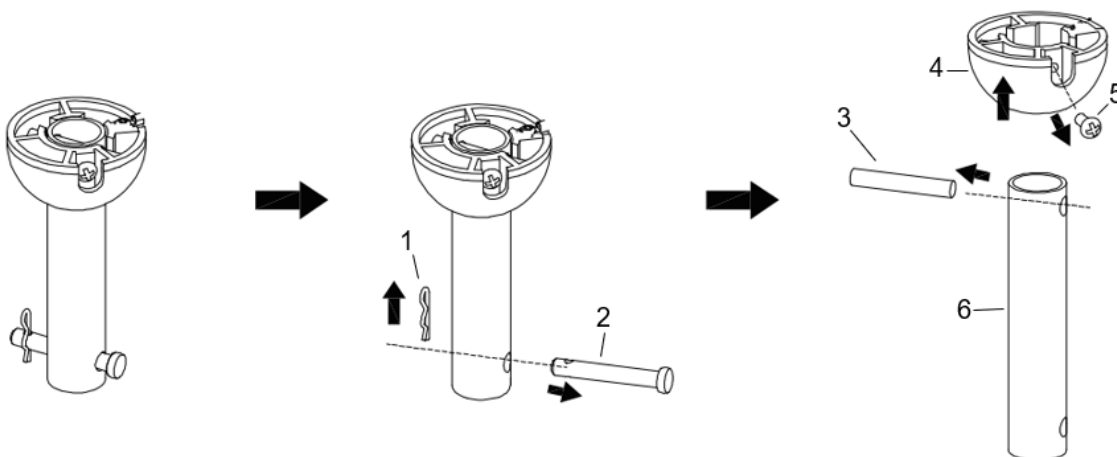

Fig. 5.1
1. Remove the ball joint (4) and dowel pin (3) by loosening the set screws (5) from the down rod (6). Remove the hitch pin (2) by removing the lock clip (1) (Fig. 5.1). **NOTE: Do not discard keep these parts, they are required to reassemble later.**